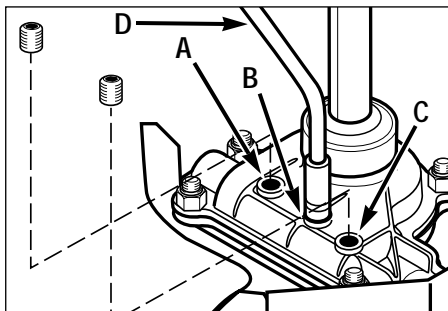

Figure 14: Transmission lubricant check and fill locations.
5. Remove the three threaded plugs (A, B and C, Figure 14) from the transmission. Lubricant should be visible in the top two
1. Place the nozzle of a standard grease gun (D, Figure 14) firmly against the rim of the middle hole (B) and add grease until it begins to seep from the bottom hole (A). Reinstall the plug in the bottom hole (A). Next apply grease to the top fill hole (C) until it begins to seep from the middle hole (B). Reinstall the plugs in the middle (B) and top (C) holes.